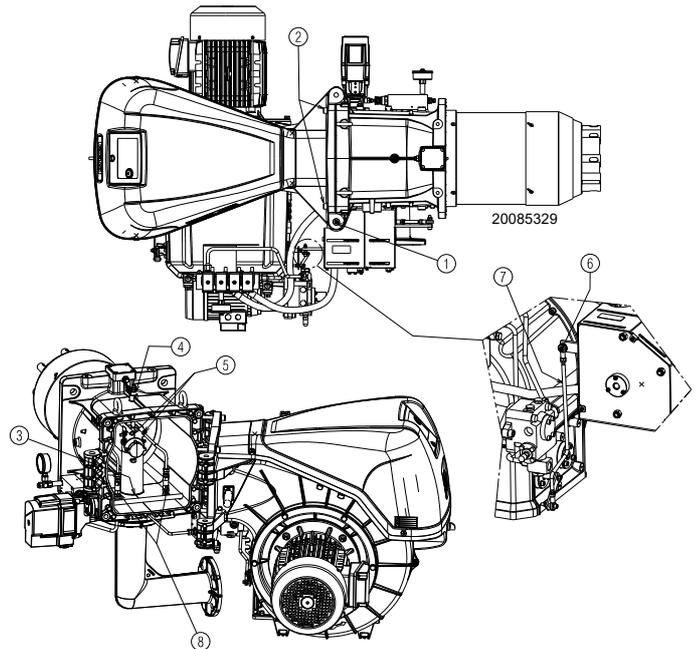

Fig. 15
The burner leaves the factory set for opening to the right, therefore maintaining the pin 1)(Fig. 15) in its housing.
- A** remove the screw 6) releasing the tie-rod 7)(Fig. 15);
- D** fully open the burner as in Fig. 15;
To open the burner from the opposite side, before removing the pin 1)(Fig. 15), make sure that the 4 screws 2) are tight. Then shift the pin 1) to the opposite side, only then is it possible to remove the screws 2); then proceed as described in point C.